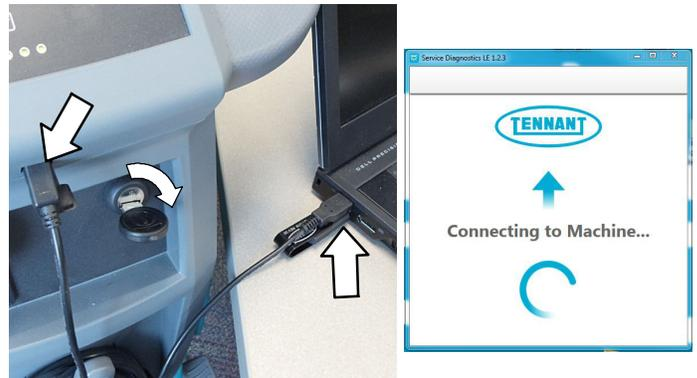

Fig. 10
- Connect the USB cable, supplied with kit, to computer and to the USB port on machine as shown. Turn the key switch to the on position (Figure 10).
- The Service Diagnostics Tool will then connect to the machine (Figure 10). If the application remains on the “Connecting to Machine...” screen for an extended period, cycle key or reconnect USB cord. If it still fails to connect, restart software or computer.